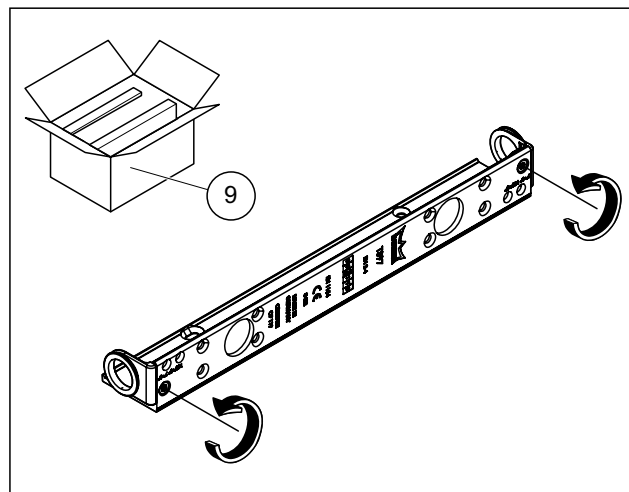
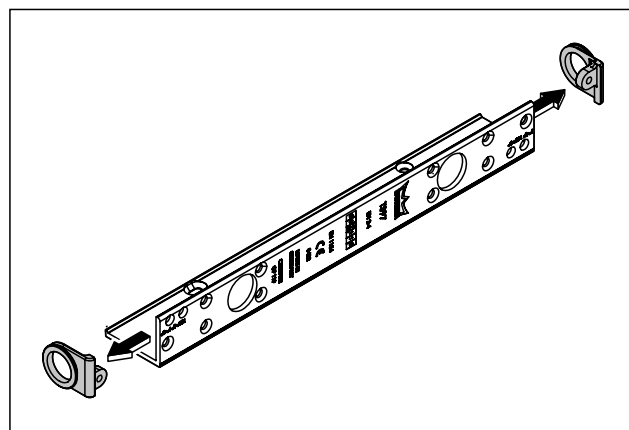

Abb. 7 Unscrew the brackets
Abb. 8 Disassemble the brackets
1. Remove the brackets from the mounting plate (Abb. 7 and Abb. 8).